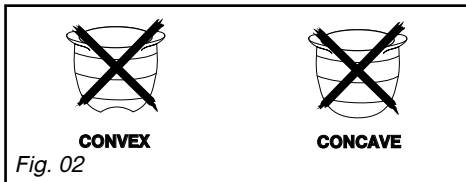

Fig. 02
– Do not use concave or convex cookware without the appropriate supports (Fig. 02).